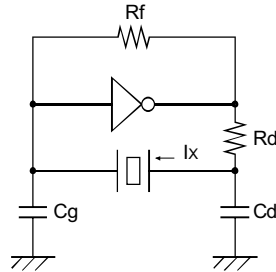

Figure 10
2. Oscillation Frequency and Load Capacitance (CL)
The load capacitance (CL) is a parameter for determining the frequency of the oscillation circuit. The CL is represented by an effective equivalent capacitance that is loaded from the oscillation circuit to both ends of the crystal unit (see Figures 10 and 11).